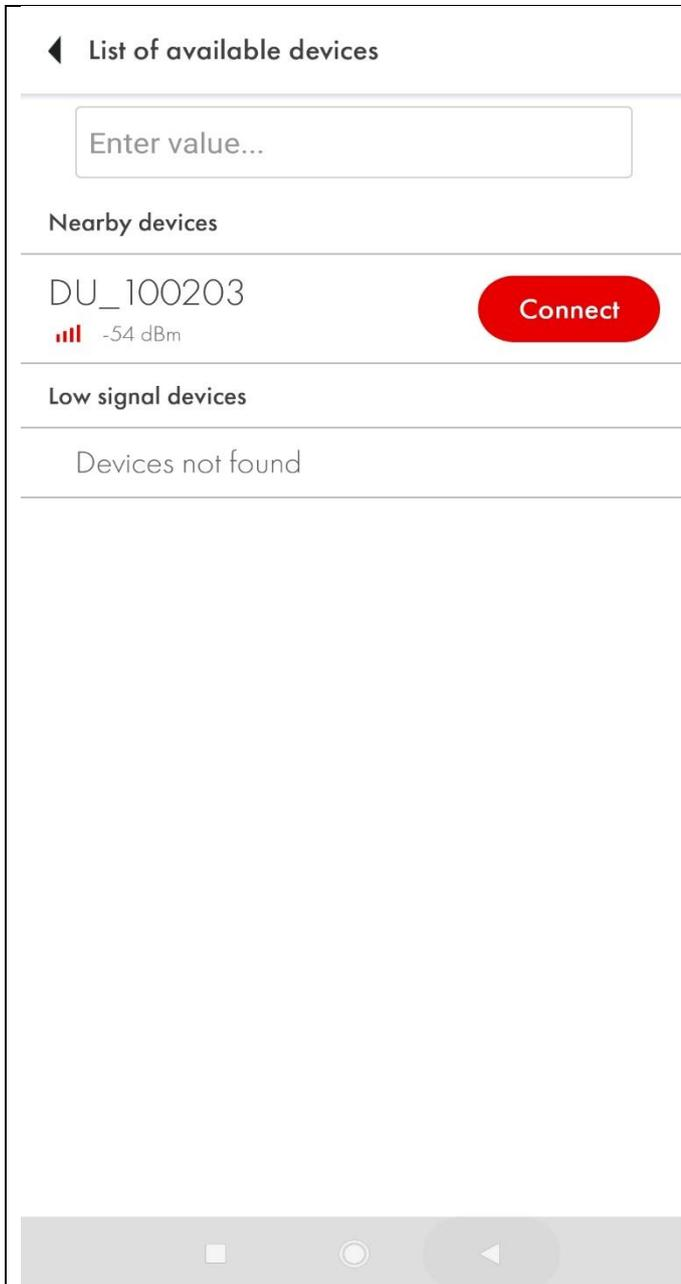

Fig. 9.3. Search for the sensor. Enter the serial number if necessary and tap **Connect**
5. Then search for the sensor on the list of available devices or type in the sensor's 6-digit serial number (visible on the sensor's head) without the 'DU_' letters into the search box and tap on the **Connect** button (Fig. 9.3.) F.e. **100203**.